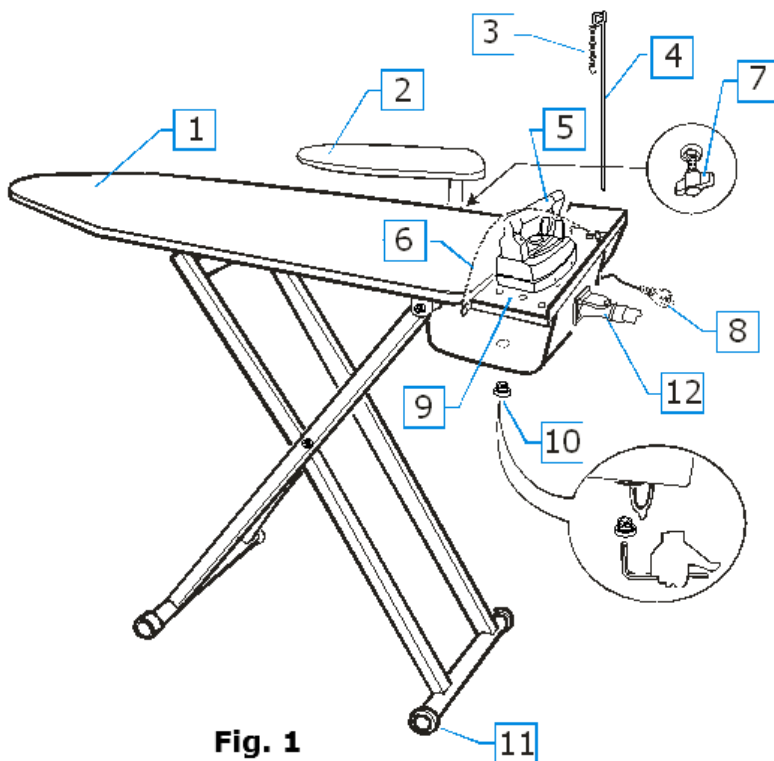

Fig. 1
2. Remove Texi Smart S+B from the box and insert the cable support deep into the special hole (fig.1).
4. Put the iron on the iron rest. (fig. 1).